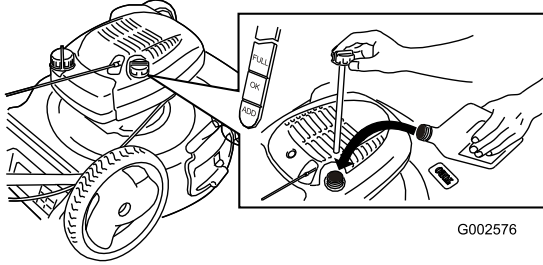

Figure 10
1. Remove the dipstick, wipe it clean, and fully install the dipstick (Figure 10).
2. Remove the dipstick and check the oil level (Figure 10). If the oil level is below the **Add** mark on the dipstick, **slowly** pour oil into the oil fill tube to raise the oil level to the **Full** mark on the dipstick. **Do not overfill.** (Max. fill: 20 oz., type: SAE 30W detergent oil with an API service classification of SF, SG, SH, SJ, SL, or higher.)